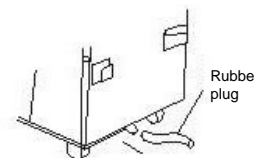

FIG.23
2. Connect the adapted pipe to the drain hole, the condensed water will go automatically (fig. 23).